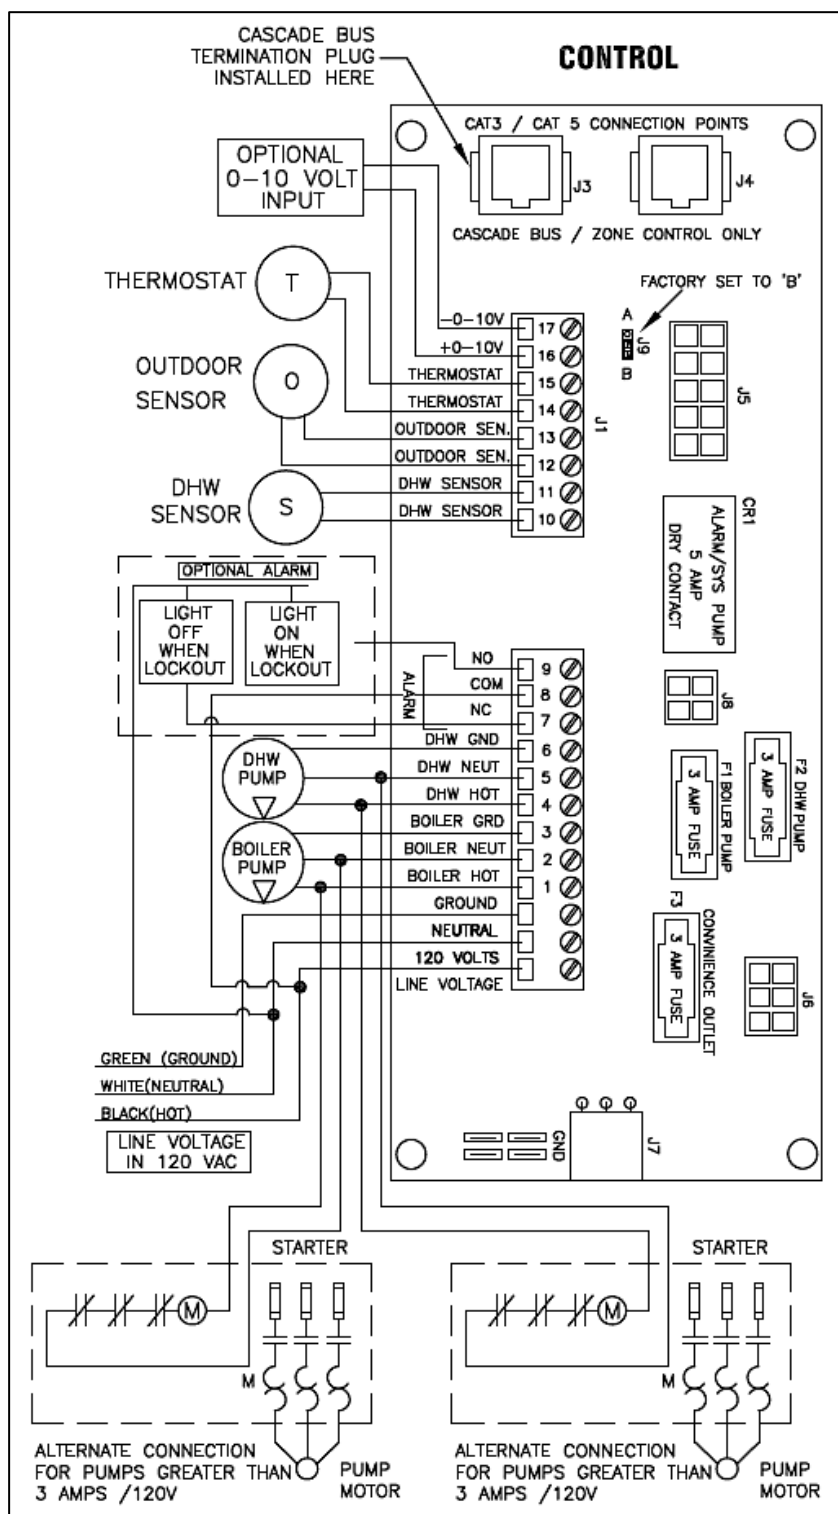

Figure 23 – Boiler Control Wiring
NOTE: A termination plug is included in the CAT 3 / CAT 5 Bus Connection Point, labeled J3 in Figure 23. **DO NOT REMOVE THIS PLUG!** Doing so will affect boiler operation and void warranty.
1. Connect the incoming power wiring to the line voltage terminal strip in the electrical junction box at terminals LINE 120V, Neutral, and Ground (shown in Figure 23).
The Mod Con control includes a dry contact alarm output. This is an SPDT circuit, rated at 5 amps at 120 volts. This contact can be used to activate an alarm light or bell, or notify a building management system if the boiler goes into a lockout condition. The circuit between the ALARM COM and NC terminals is closed during normal operation and the circuit between ALARM COM and NO is open during normal operation. The connections depicted in Figure 23 show two 120 volt lights connected to the alarm terminals. One light will be on when the boiler is in normal mode and the other light will turn on when the boiler is in lockout mode.
2. Connect all low voltage field devices in the low voltage terminal strip located in the electrical junction box (shown in Figure 23).
1. Connect the room thermostat to the terminals marked THERMOSTAT in the electrical junction box (shown in Figure 23). Alternately, any dry contact closure across these terminals will cause the boiler to run. Caution should be taken to ensure neither of the terminals becomes connected to ground.
1. If using an outdoor sensor, connect wires for sensor to the terminals marked OUTDOOR SEN (shown in Figure 23) in the electrical junction box. Caution should be used to ensure neither of these terminals becomes connected to ground.
2. Connect the indirect tank sensor (7250P-325) to the terminals marked DHW SENSOR (shown in Figure 23) in the electrical junction box.
2. Connect a building management system or other auxiliary control signal to the terminals marked 0-10 VOLT + and 0-10 VOLT – in the electrical junction box (shown in Figure 23). Caution should be used to ensure that the 0-10 VOLT + connection does not become connected to ground.